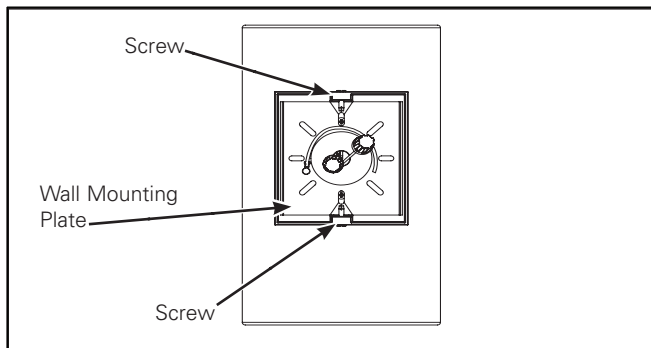

Figure 1.
1. Install wall mounting plate to splice box using splice box hardware (provided by others) and tighten to 17 IN/LBS torque when using 8-32 screw. Make electrical connections to outlet box (Figure 1.).